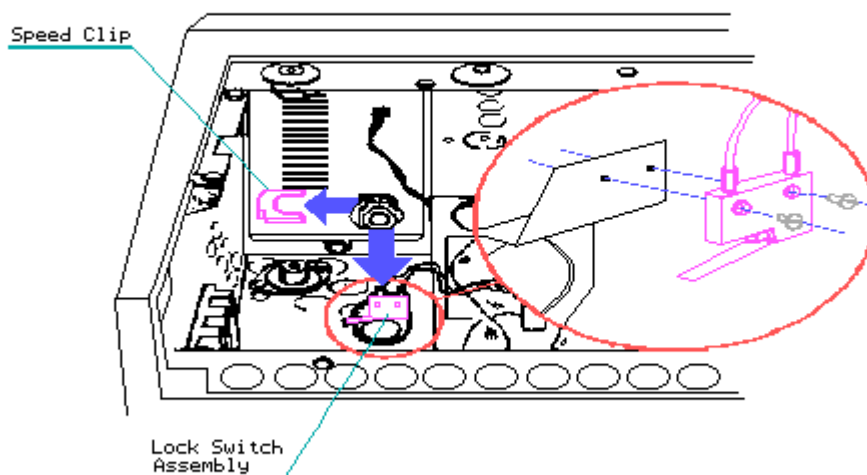

Figure 7.14-2. Removing the Security Lock Switch from the Security Lock Switch Assembly
6. Remove the security lock switch assembly by removing the speed clip that secures the assembly in place on the Enclosure B front plate (Figure 7.14-2).